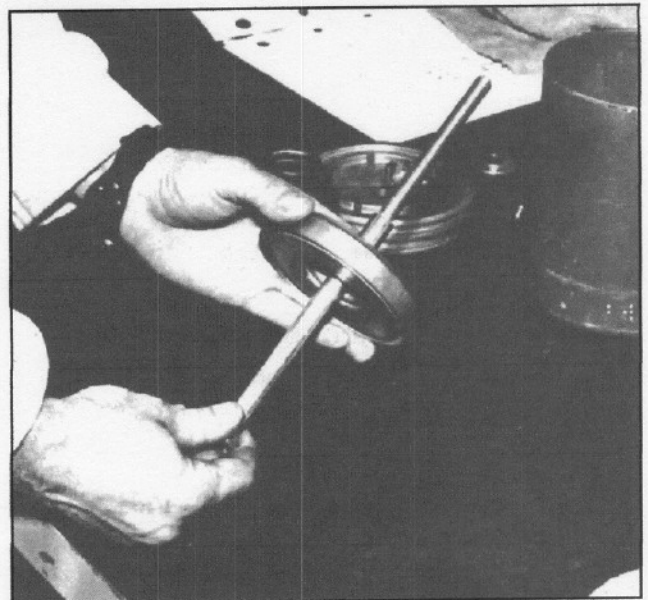

FIGURE 9
5. Slide oil separator filter over the cartridge bolt with the gasket surface next to the shell. (See Figure 9)